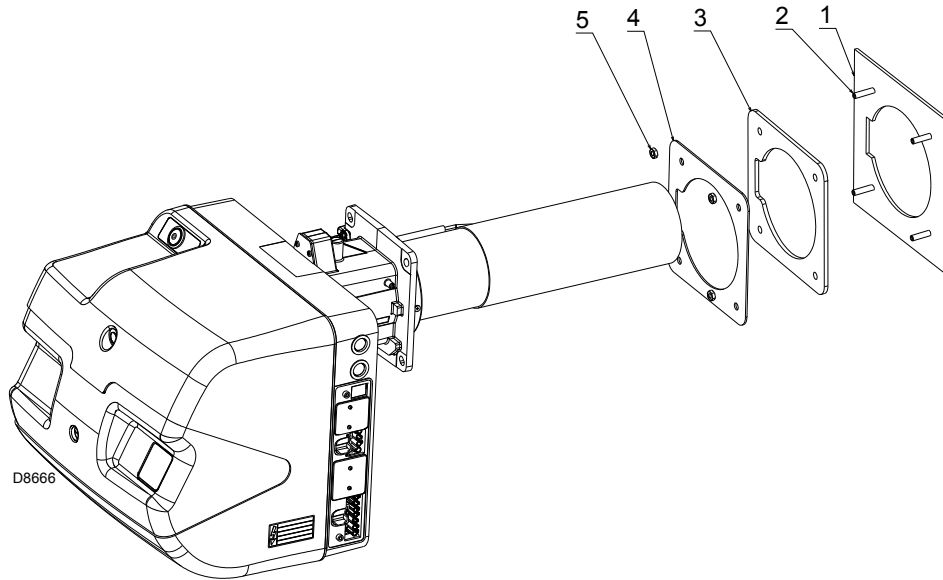

Fig. 13
This protective device must allow the blast tube to be taken out (Fig. 13).
- Screw the studs 2)(Fig. 13) onto the boiler plate 1).
- Position the refractory gasket 3) and seal 4)(Fig. 13).
- Fix the flange to the boiler plate and tighten the nuts 5)(Fig. 13).